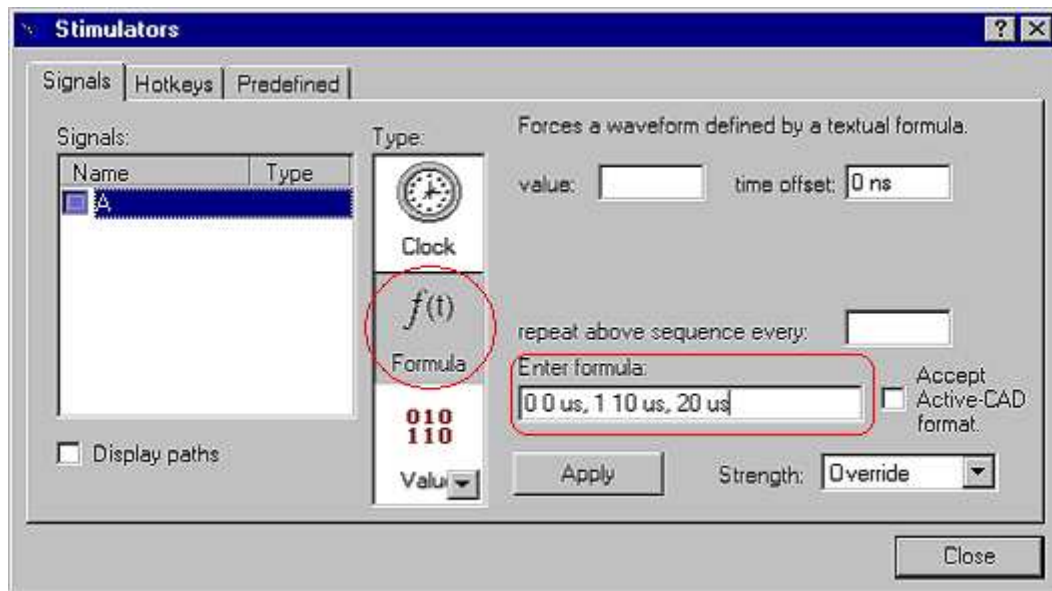

Figure 50
1. With the Stimulators window open and a signal selected, click the “Formula” option in the list (see Figure 50).
2. In the “Enter formula” field, enter the value (1 or 0) followed by a space and the time at which to assert this value. For example, the following formula will cause a signal to start out at 1, then change to 0 at 10 us and back to 1 at 20 us: 1 0 us, 0 10 us, 1 20 us (Figure 50).